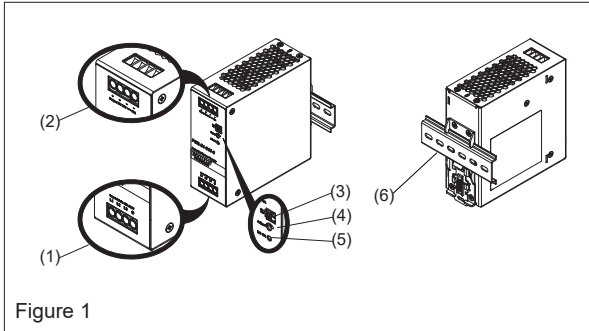

Figure 1
## 2. Device description (Fig. 1)
### 4.1. Input connection (Fig. 1, Fig. 6)
Use L1, L2, L3 and PE connections of input terminal connector (see Fig. 1 (1)) to establish the 3 x 380-500 VAC connection. Fig. 6 shows the connection to the various network types.
### 4.2. Output Connection (Fig. 1 (2))
Use the "+" and "-" screw connections to establish the 24 VDC connection. The output provides 24 VDC. The output voltage can be adjusted from 24 to 28 VDC on the potentiometer. The green LED DC OK displays correct function of the output (Fig. 1 (5)). The device has a short circuit and overload protection and an overvoltage protection limited to < 35 VDC.